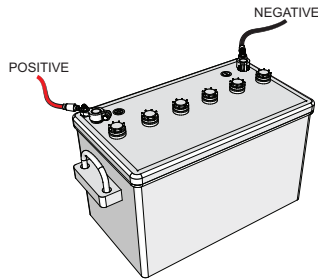

Figure 38. Battery Connections
**ALWAYS** make sure the battery cables are properly connected to the battery terminals as shown in Figure 38. The **red cable** is connected to the **positive terminal** of the battery, and the **black cable** is connected to the **negative terminal** of the battery.